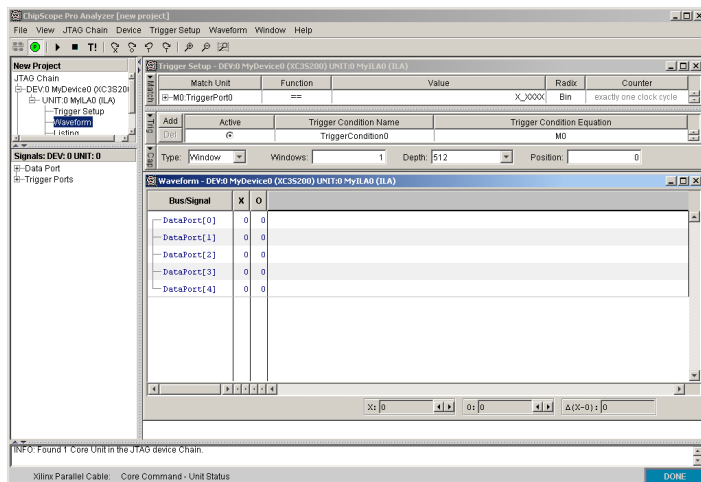

Figure 25
37. Your screen should be similar to Figure 25.